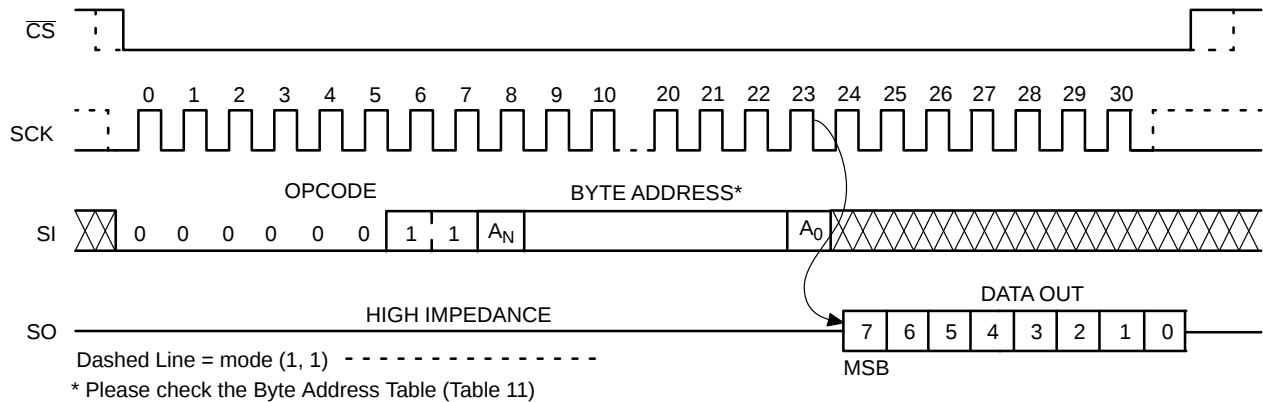

Figure 9. READ Timing
After receiving the last address bit, the CAV25512H will respond by shifting out data on the SO pin (as shown in Figure 9). Sequentially stored data can be read out by simply continuing to run the clock. The internal address pointer is automatically incremented to the next higher address as data is shifted out. After reaching the highest memory address, the address counter “rolls over” to the lowest memory address, and the read cycle can be continued indefinitely. The read operation is terminated by taking $\overline{CS}$ high.
Reading the additional 128-byte Identification Page (IP) is achieved using the same Read command sequence as used for Read from main memory array (Figure 9). **The IPL bit from the Status Register must be set (IPL = 1) before attempting to read from the IP.** The [A6:A0] are the address significant bits that point to the data byte shifted out on the